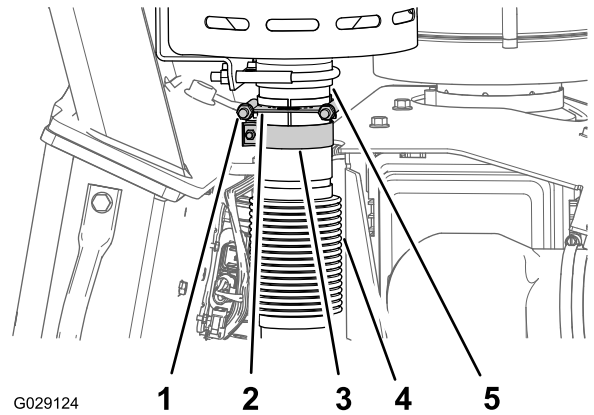

Figure 8
2. Remove the band clamp and the lower guillotine clamp that secures the muffler to the turbocharger-exhaust pipe (Figure 8).